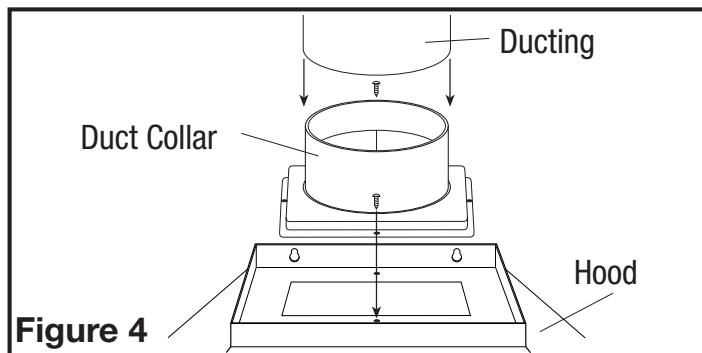

Figure 4
- Install the included duct collar to the hood with four of the provided #6 blunt tip screws. Ensure duct joints and exterior penetrations are sealed with caulk or other similar material to create an air-tight path to minimize building heat loss or gain and to reduce the potential for condensation. Place/wrap insulation around duct and/or fan in order to minimize possible condensation buildup within the duct, as well as building heat loss or gain (Figure 4).
- Connect the ducting to the duct collar and secure in place using tape to seal all joints (Figure 4).